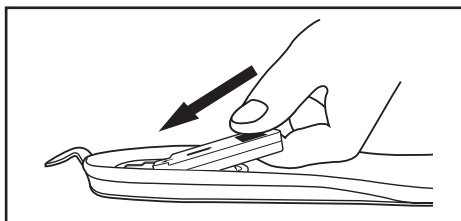

Figure 8
4. With the connectors aligned, slide the battery towards the Insole connector. Then slide the battery connector into the Insole connector (Figure 8) and press the battery all the way down into the battery compartment. The battery will be fully nested inside the Insole battery compartment. The LED in battery compartment will flash red and green briefly to show that it is connected properly.